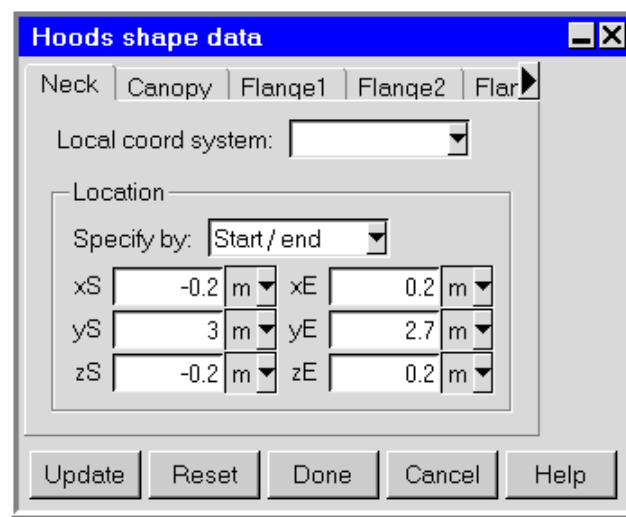

Figure 18.3.2: The Hoods shape data Panel (Neck Tab)
- (a) Deselect Fix shapes in the Properties tab and click Edit details to open the Hoods shape data panel (Figure 18.3.2).
- (d) To specify the neck in the hood, click the Neck tab (Figure 18.3.2). Select Start/end and enter values for the start coordinates (xS, yS, zS) and end coordinates (xE, yE, zE) of the neck. Alternatively, you can select Start/length and enter values for the start coordinates (xS, yS, zS) and lengths of the sides (xL, yL, and zL) of the neck.